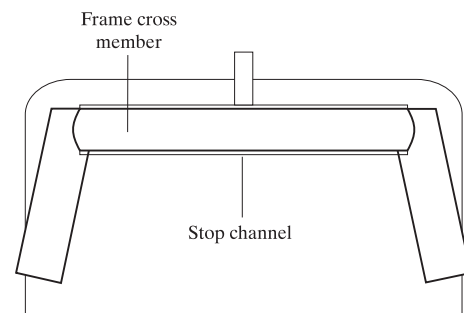

Figure 2 - Securing Leg Frame
2. Turn the ADC-08CF Stool upside down and set on the edge of an elevated flat surface such as a table or counter top. Scissor the leg frame so that the frame cross member lines up with the stop channel at the rear of the stool on the underside. Fit the frame cross member into the channel and push firmly into place. (Fig. 2)